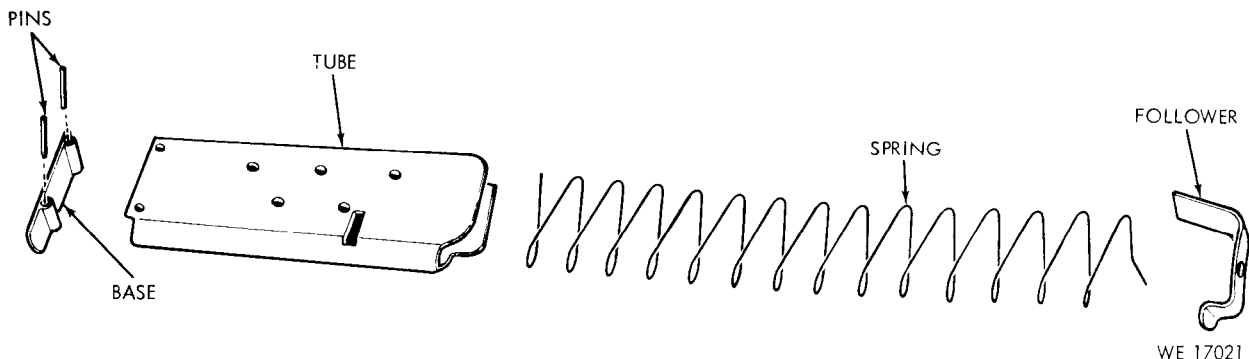

Figure 3-9. Magazine assembly-exploded view.
(1) Operator's repairs to the weapon will be limited to replacement of the magazine. The magazine can be disassembled in accordance with figure 3-9 for cleaning purposes.